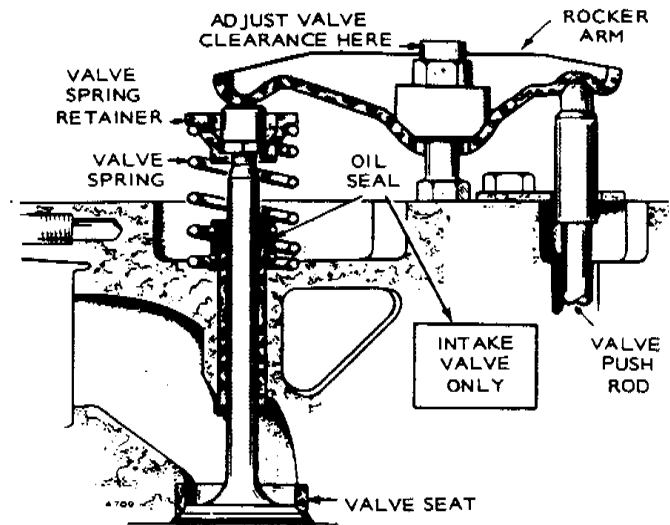

FIGURE 16. VALVE CLEARANCE ADJUSTMENTS
3. Check cylinder head-bolt torque prior to valve clearance adjustment. Torque should be 44-46 foot-pounds (59.7-62.4 N•m). Valve clearance is adjusted with the locknut which secures rocker arm to the cylinder head (see Figure 16). Loosen the locknut to increase clearance and tighten to reduce clearance.